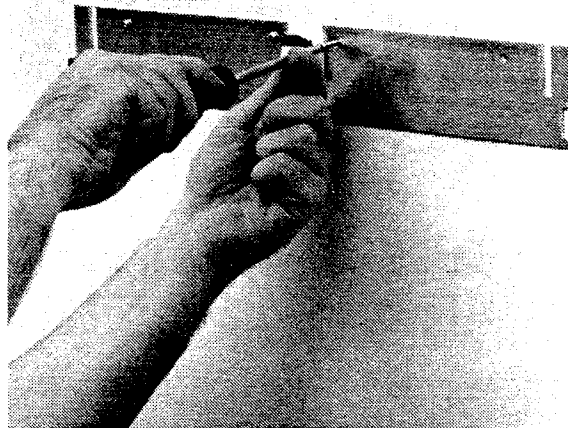
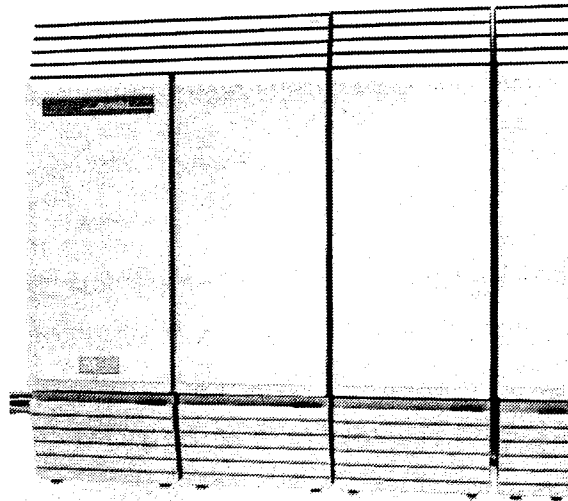

Figure 3.4 - Installing the KSU Mounting Bracket
Figure 3.7 - KSU, TM and SM installed
1. Position metal mounting bracket(s): Hold the KSU bracket, as shown in Figure 3.4, and fasten to the wall using four 19 mm ($\frac{3}{4}$ inch) long screws. Orient KSU as in Figure 3.7.
6. Close the door(s) of the cable trough(s) as shown in Figure 3.7.